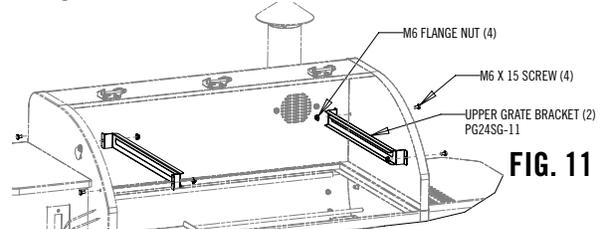

FIG. 11
1. Install the brackets as shown in Fig 11.